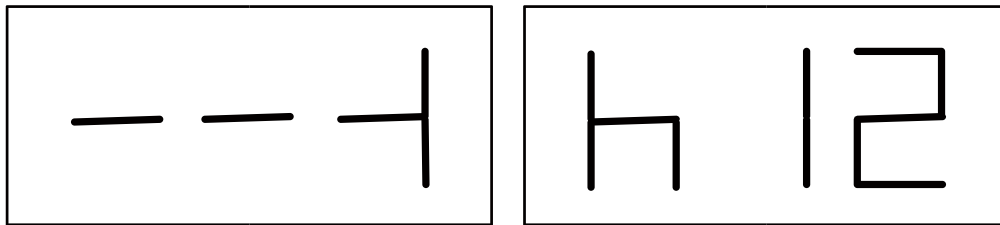

Fig. F5.7 “Final valve alignment with the mark on the tire” message
- a) Bring the valve to the 12 o'clock position and press [P4]  to continue. In this case, the message seen in figure F5.7 will be displayed.